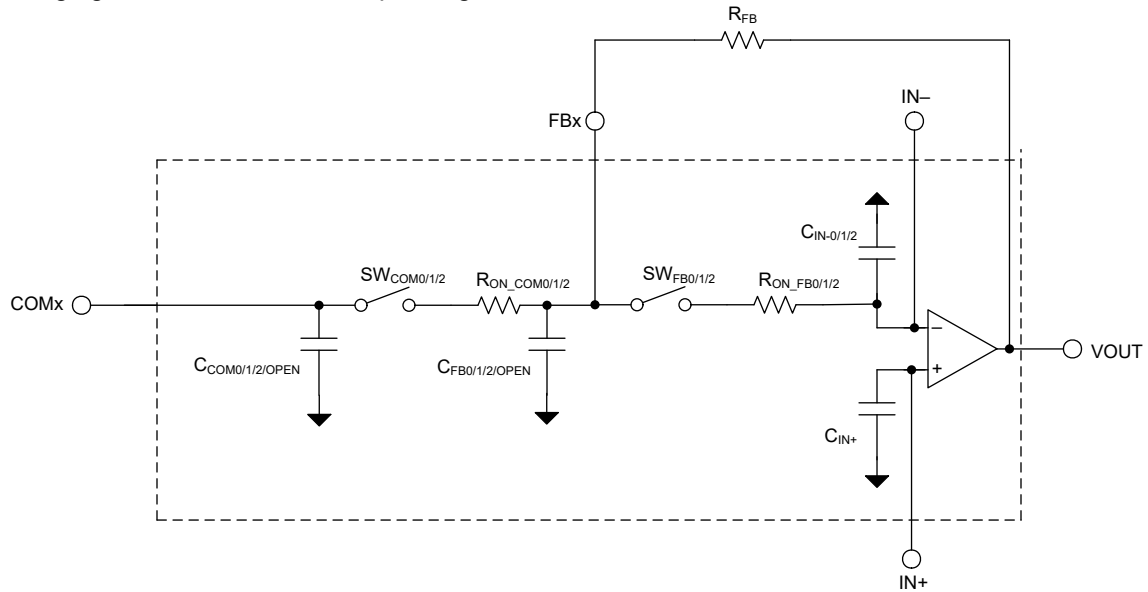

图 7-1. Switching Characteristics Configuration
$V_{S+} = 5\text{ V}$ ,  $V_{S-} = 0\text{ V}$ , input common-mode biased at midsupply,  $R_{F0} = 1\text{ k}\Omega$ ,  $R_{F1} = 10\text{ k}\Omega$ ,  $R_{F2} = 100\text{ k}\Omega$ ,  $R_L = 200\ \Omega$ , output load is referenced to midsupply, and  $T_A \approx +25^\circ\text{C}$  (unless otherwise noted), see figure 7-1 for schematic configuration. (1) (2)